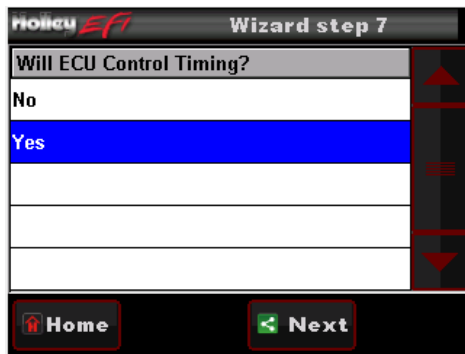

Figure 15
9. Next, you need to select whether the ECU will be controlling the ignition timing (Figure 15). Select “Yes” ONLY if you are using a GM small cap computer controlled HEI distributor or Ford TFI distributor. These are the only ignition distributors that allow the ECU timing control using the TERMINATOR STEALTH™ system. All other ignition/distributor types must be a standard mechanical advance type used on any carbureted application. If you select “Yes”, proceed to step 10. If you select “No”, proceed to step 11.